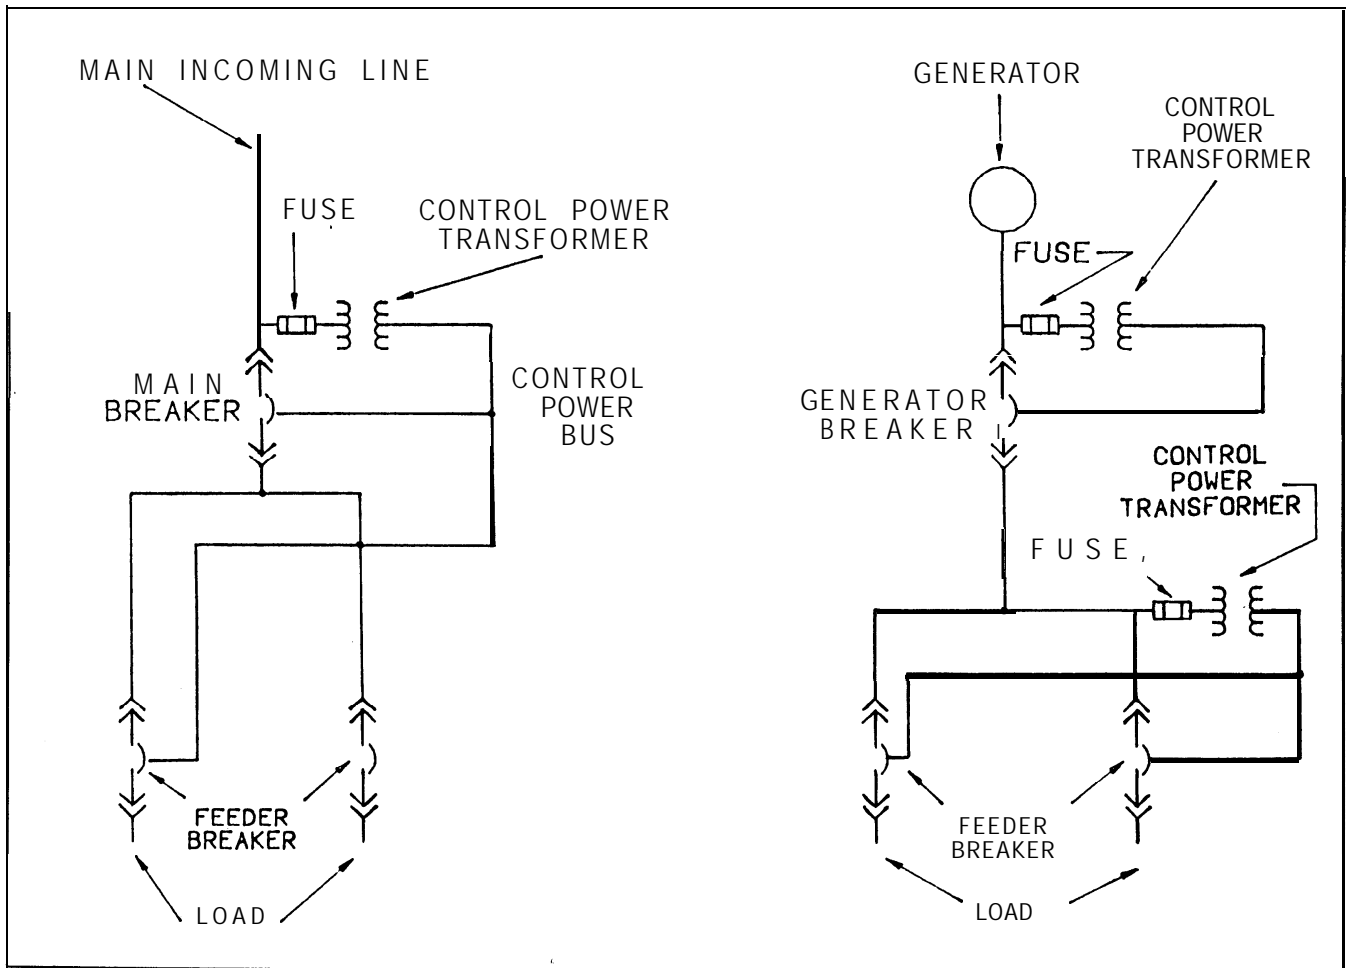

Figure 5-6. AC control circuits.
(1) *AC control circuits.* AC control circuits usually derive their power from the source side of the circuit breaker being controlled. This procedure applies to main incoming line circuit breakers, generator circuit breakers, and feeder circuit breakers (see fig 5-6). Depending on the system voltage, the control power can be taken directly from the main bus since it can be connected through a control power transformer.